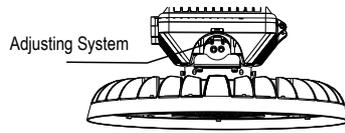
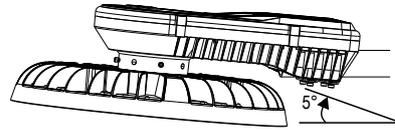

Figure 6
Figure 7
- The lamp can be adjusted vertically by 5° by adjusting the limit. (Figure 6, Figure 7)